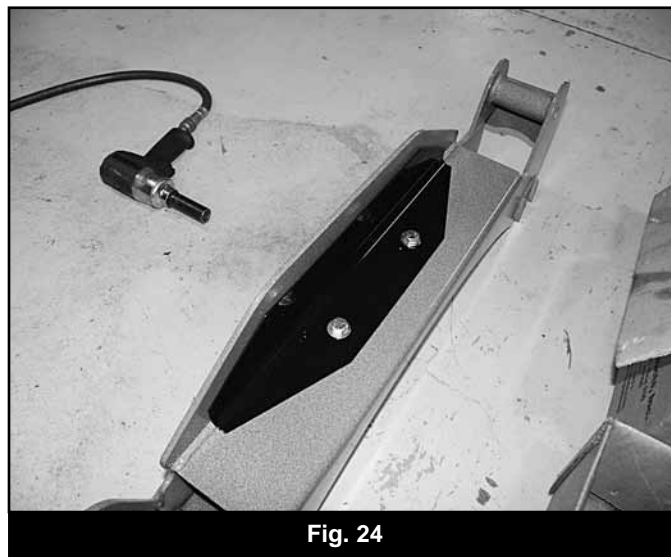

Fig. 24
44. Install the provided front crossmember backing plate (01098) on the front crossmember (01087) with 7/16" x 1-1/4" bolts, nuts and 7/16" SAE washers (BP #311) (Fig 24). Torque bolts to 45 ft-lbs. This backing plate is provided in black but can be repainted. This is an optional part in the kit and it is not necessary to install. The purpose is to add a background to the "BDS" cut-out in the crossmember. Note: There will be an extra bolt, nut and two washers left over from bolt pack 311.